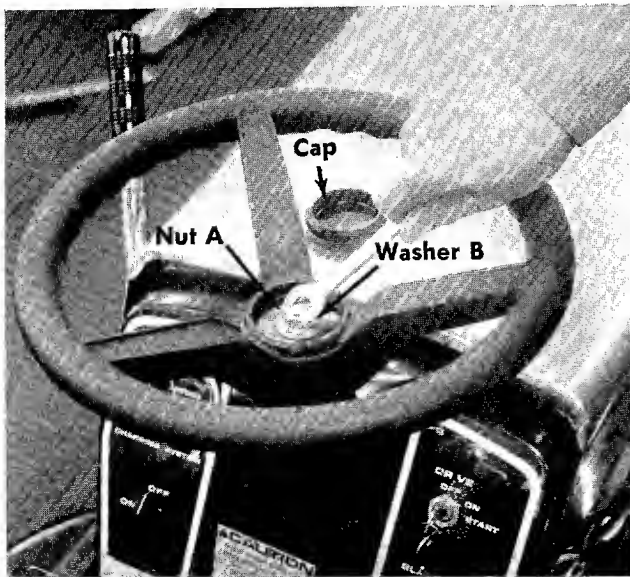

FIGURE 3.
Step 2. Place the steering wheel over the tapered end of the steering column. Press it down until the threaded end sticks through the steering wheel. See figure 3.